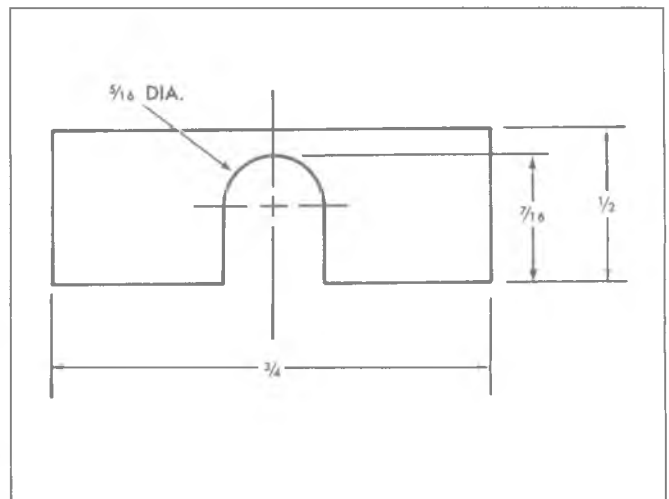
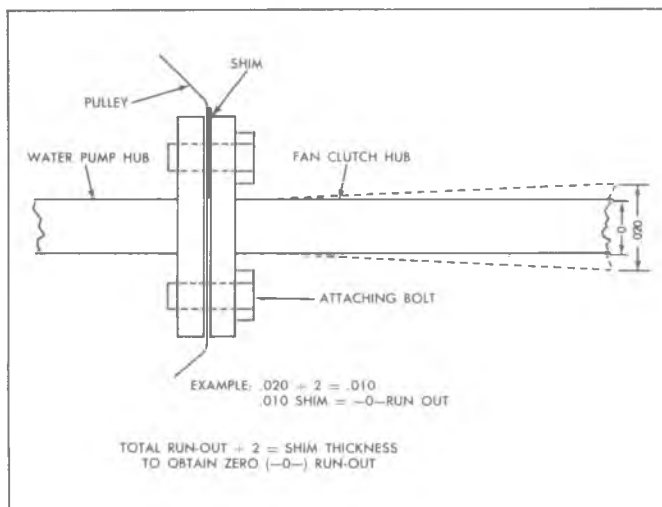

Fig. 8—Shim Fabrication Dimensions
Fig. 9—Determining Shim Placement
5. Divide the total indicator reading in half and obtain this thickness from shim stock (1/2 x 3/4) and rework per Figure 8. Place this shim pack between the water pump pulley and fan clutch hub at the bolt closest to the point marked on the pulley in Step 3. If the mark on the pulley is between two bolts so that it is difficult to determine which bolt is closest, place two shim packs; one under each bolt on either side of the mark. (See Figure 9).